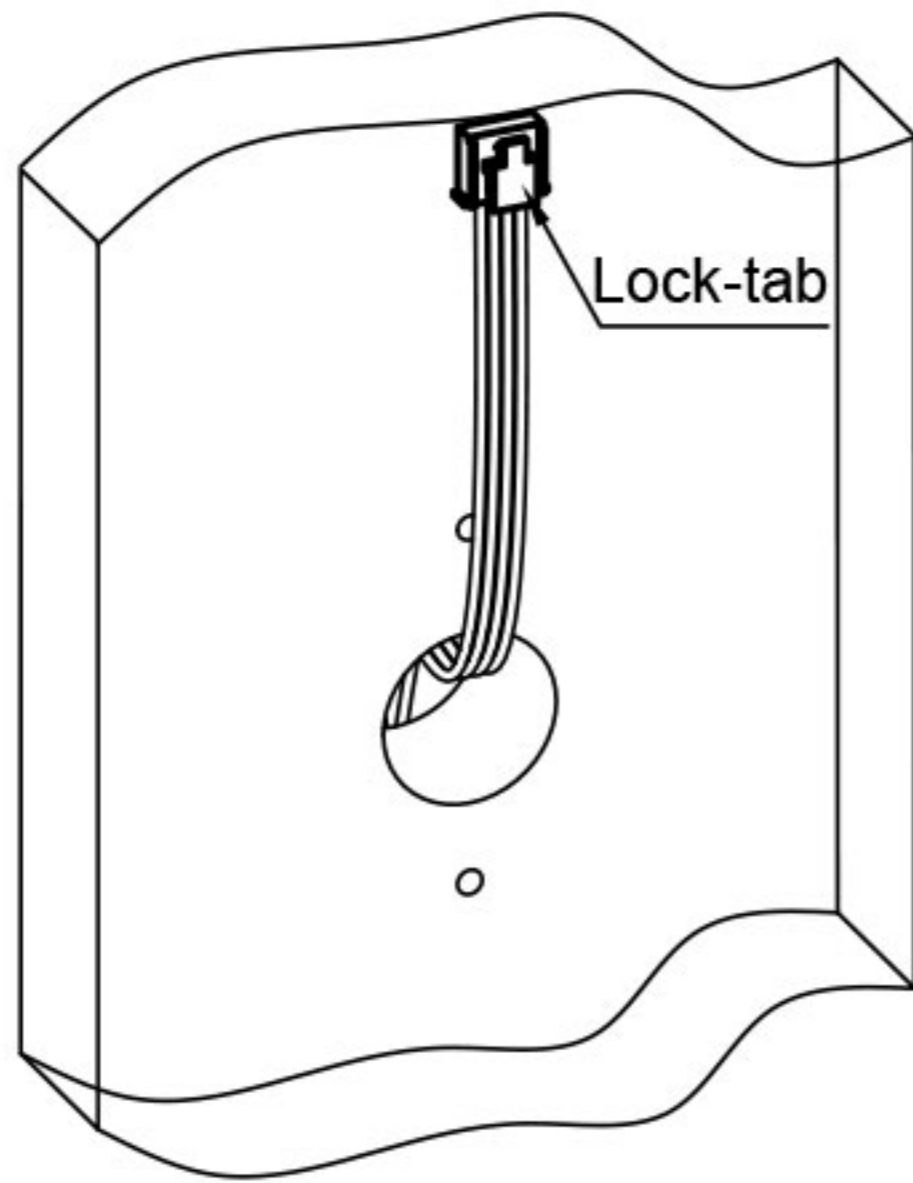

Fig. 10
7. Make sure the swingbolt actuator is fully operational before closing the safe door for the first time. (Fig. 10)
2. Gently pull on the cable to ensure there is no excess cable in the hole and place the cable as shown. (Fig. 10)